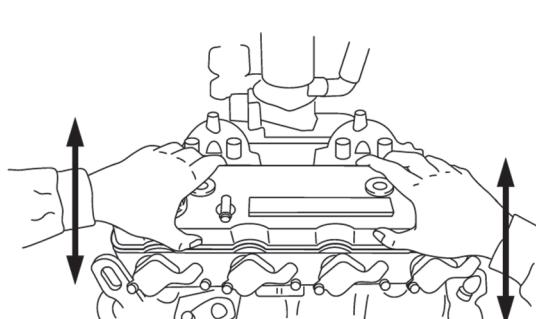

Figure 2
- 2) To release the grip of the gasket adhesive, move the engine rocker arm cover forward and back lightly while pressing on it (Figure 2).